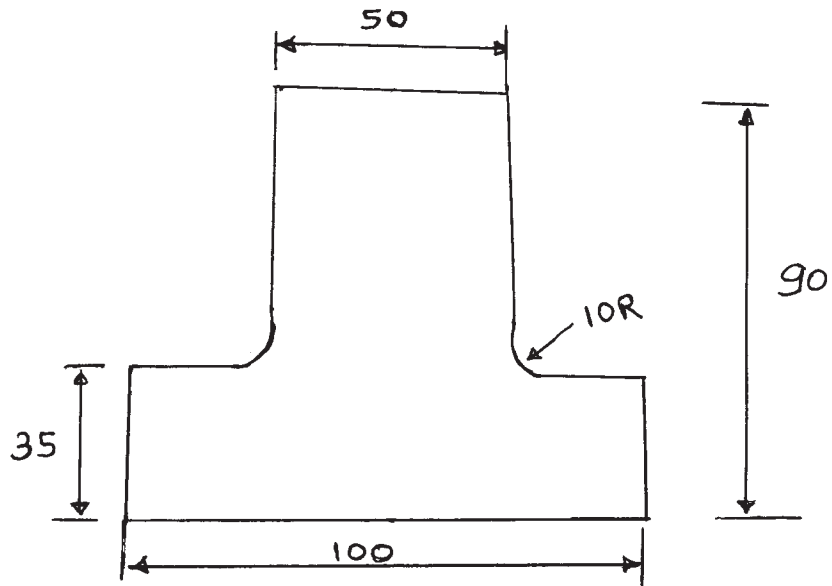

Fig. No. 2
- b) Write part program for the component given in Figure No. 2.